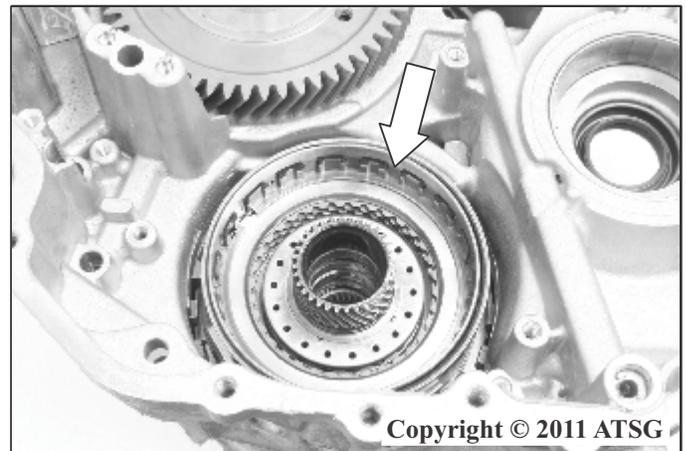

Figure 46
63. Remove the 4-5 clutch drum assembly as shown in Figure 46.